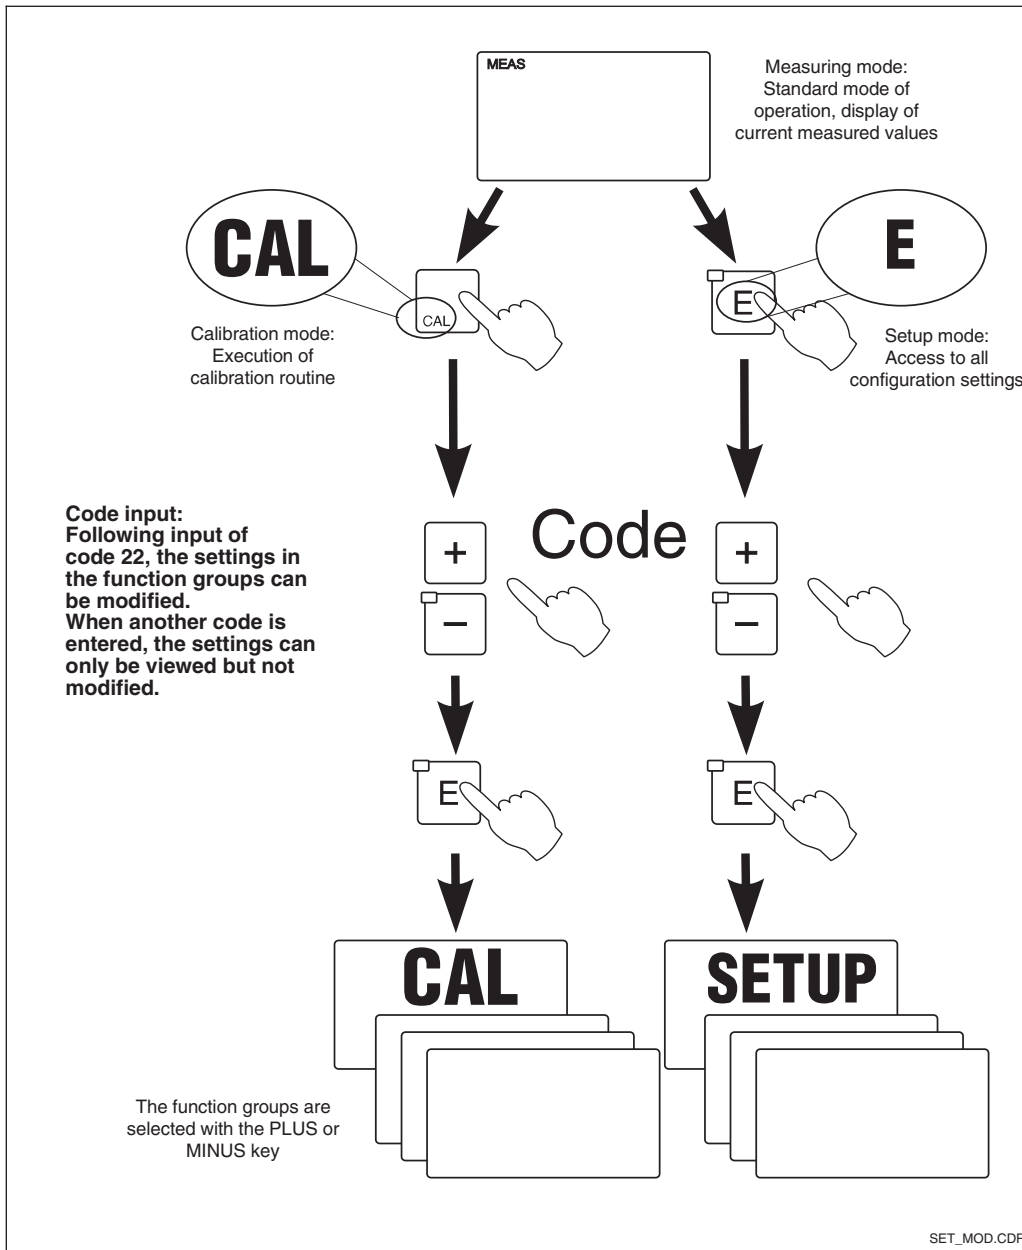

Fig. 4.3 Description of operating modes
All instrument access codes are fixed, i.e. they cannot be modified. Three access codes are distinguished (cf. Fig. 4.3):
- Any code: Read mode access, i.e. all settings can be viewed but not modified (access with ENTER/CAL key, see Fig. 4.3).
- Code 22: Access to calibration and offset menus (access with CAL key, see Fig. 4.3).
- Code 22: Access to configuration menus for instrument configuration and user settings (access with ENTER key, see Fig. 4.3).